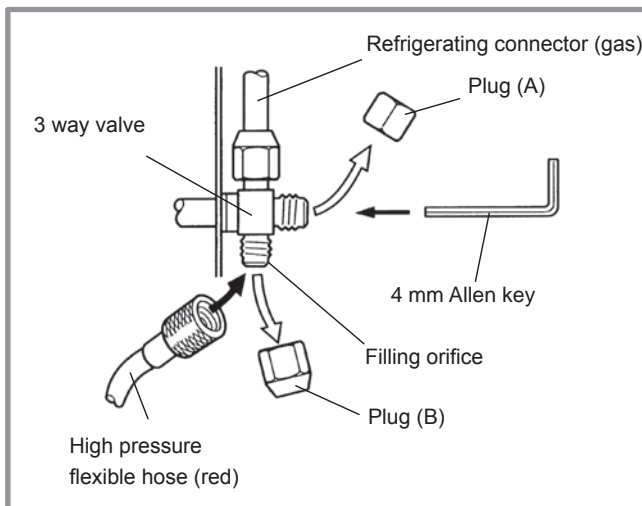

figure 22 - connection of the flexible hose to the gas valve
- Remove the protection plug (B) from the filling orifice (Schrader) on the gas valve (large diameter).
- Connect the high pressure flexible hose of the *Manifold* to the filling orifice (figure 22).